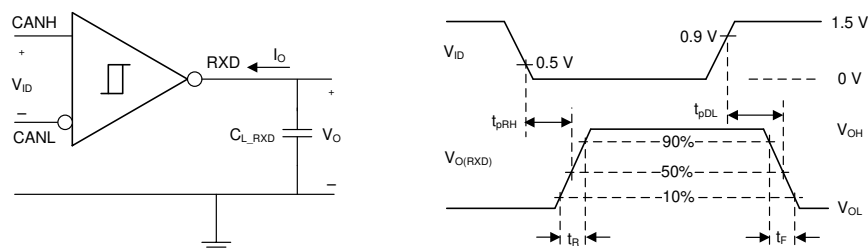
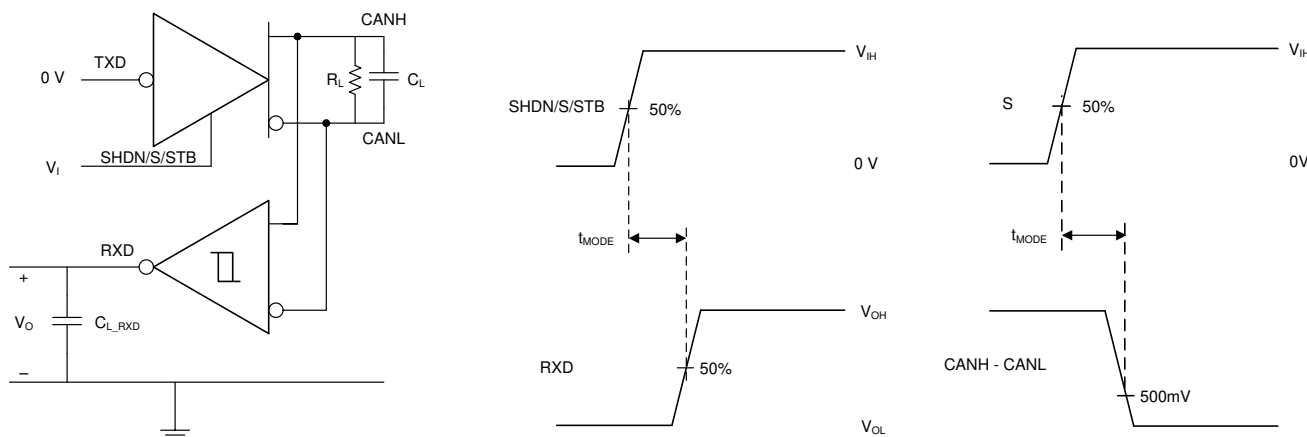

Figure 6-3. Receiver Test Circuit and Measurement
Figure 6-4. t_{MODE} Test Circuit and Measurement, from Normal to Shutdown, Standby or Silent Mode
The CAN bus has two logical states during operation: recessive and dominant. See Figure 6-3 and Figure 6-4.
Transceivers with low power Standby Mode have a third bus state where the bus terminals are weakly biased to ground via the high resistance internal resistors of the receiver. See Figure 6-3 and Figure 6-4.
(1) Mirrors bus state: low if CAN bus is dominant, high if CAN bus is recessive.
(2) See Figure 6-3 for bus state.